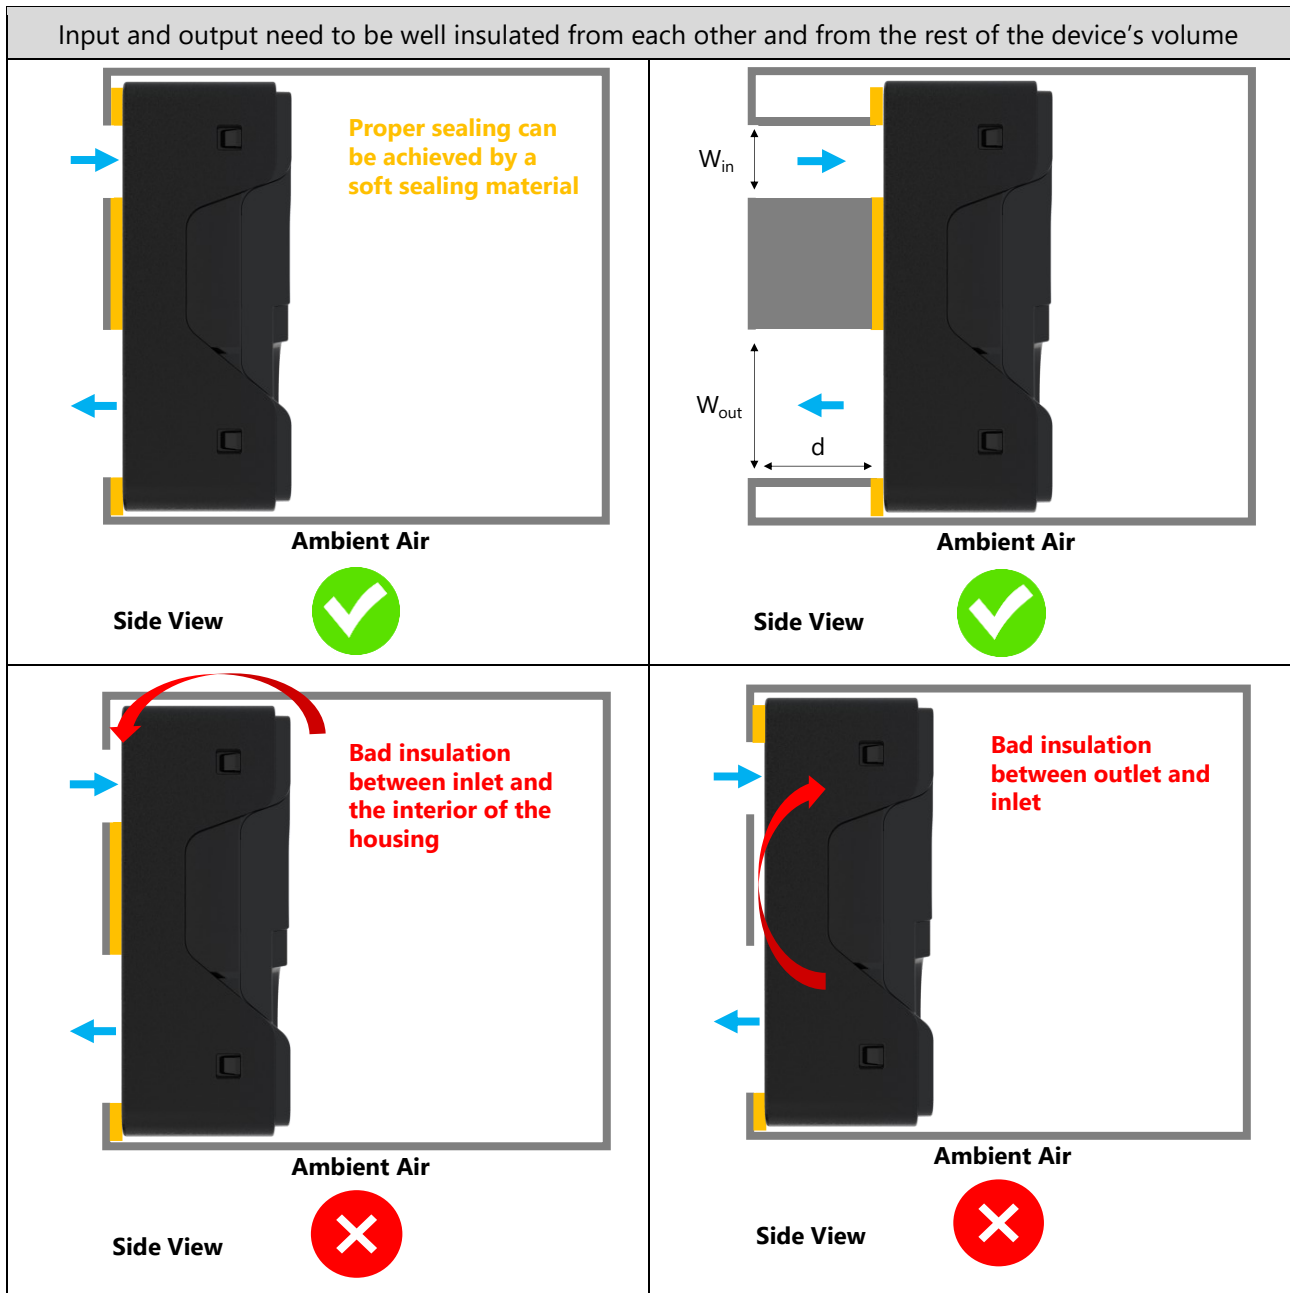

Figure 2. Insulation and air channel design of the device with SEN6x inside
**It is essential for any design that inlets and outlet are well insulated from each other by proper sealing. In addition, both must be tightly sealed from the rest of the device volume to prevent air being drawn through parasitic channels, such as from inside the device (see Figure 2).**